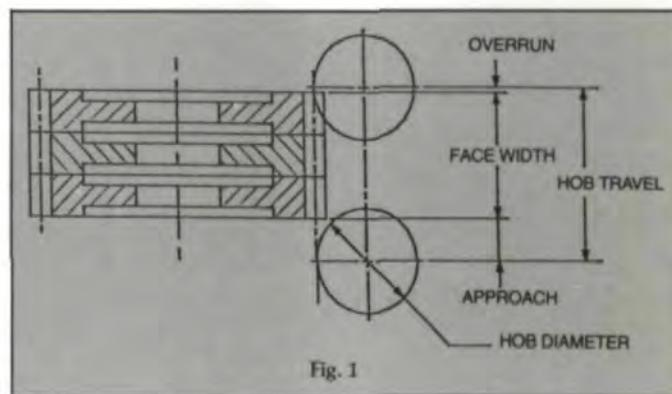

Fig. 1
*Gear Face Width.* The gear face width is also indicated on the part print as the width of the gear blank. When more than one part is loaded per cycle, the total gear width must be taken into account. (Fig. 1)